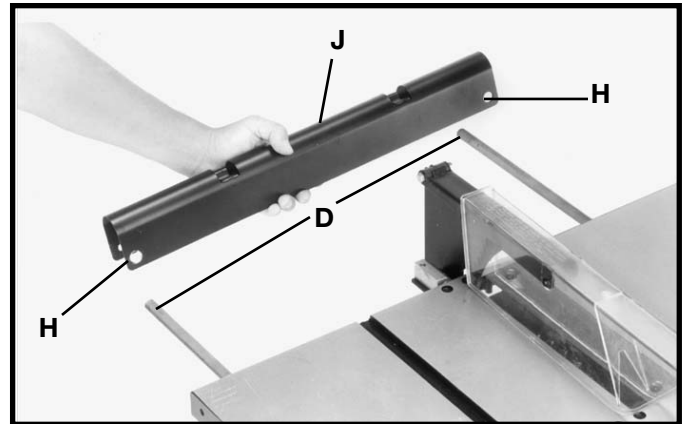

Fig. 33
3. Insert rods (D) Fig. 33, into larger holes (H) in outfeed support (J) as shown.